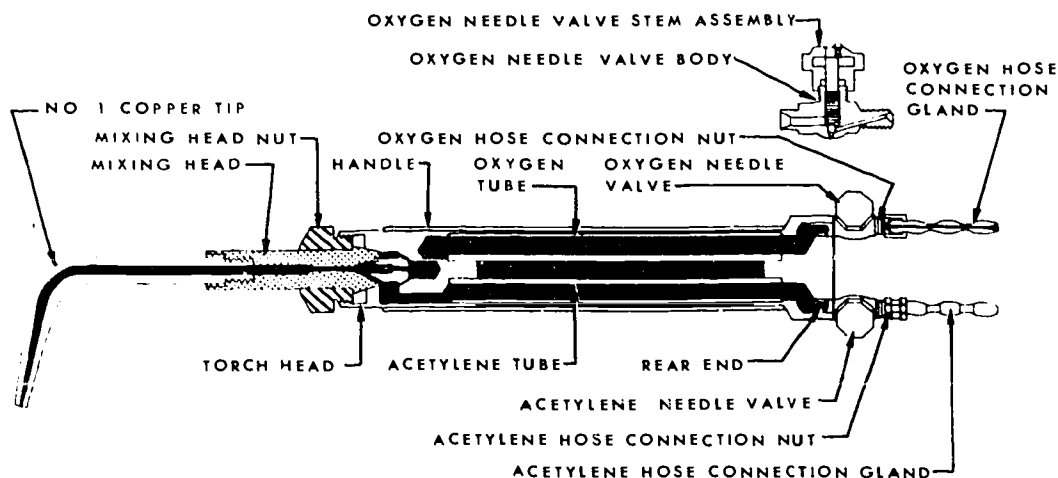

Figure 7. Oxyacetylene Torch
4. Connect the welding tip to the welding torch handle and tighten the coupling nut using hand pressure only. Wrench tightening may damage "O" rings and create a faulty seal (see figure 7).